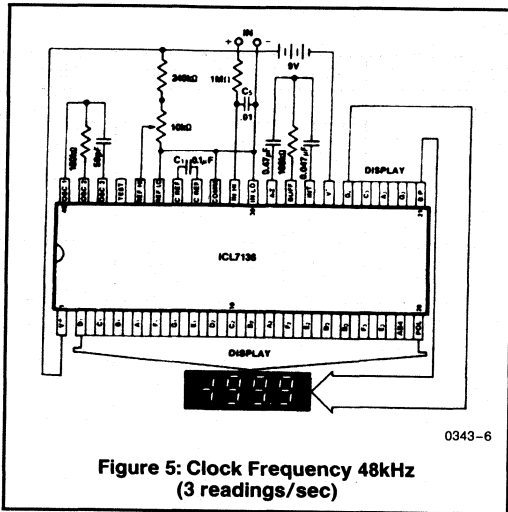

Figure 5: Clock Frequency 48kHz
6. 48kHz oscillator, Figure 5, increases current by 20 $\mu A$  (typ).